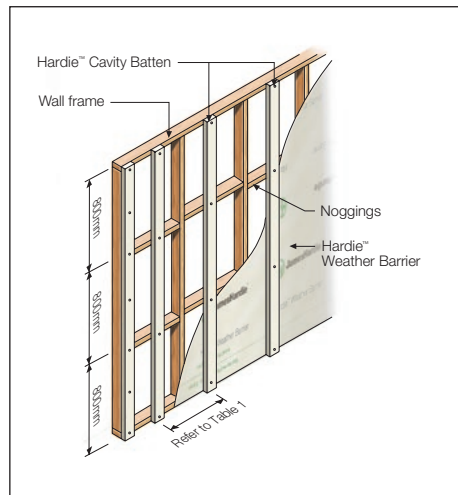

FIGURE 5 OFF-STUD FIXING
Alternatively, for the off-stud installation method, noggings must be installed at 800mm maximum centres, see Figure 5. The noggings must be aligned with the exterior plane of the frame to ensure that a flush surface is provided to accommodate the installation of the cavity batten. Off stud fixing is not suitable in high wind loads, see Table 1. This table specifies the maximum stud spacings for Matrix™ Cladding for Australian wind load classifications of AS 4055 'Wind Loads for Housing'.
The cavity batten can be installed off-stud over the Hardie™ Weather Barrier. It is important that horizontal supports (noggings) are installed at a maximum of 800mm vertical centres. A specified fastener is fixed at the intersection of every support, see Figure 5. For cavity batten and stud spacings, refer to Table 1.
* In the case of fixing the cavity batten off stud, the fastener spacing will be at each support i.e. a maximum of 800mm centres, see Figure 5.